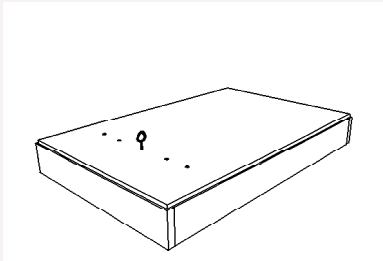

fig. 4
3. Fit the screw eye which is taped to the operating rod to the lid 60mm in from the opening end, midway across the width (figure 4).